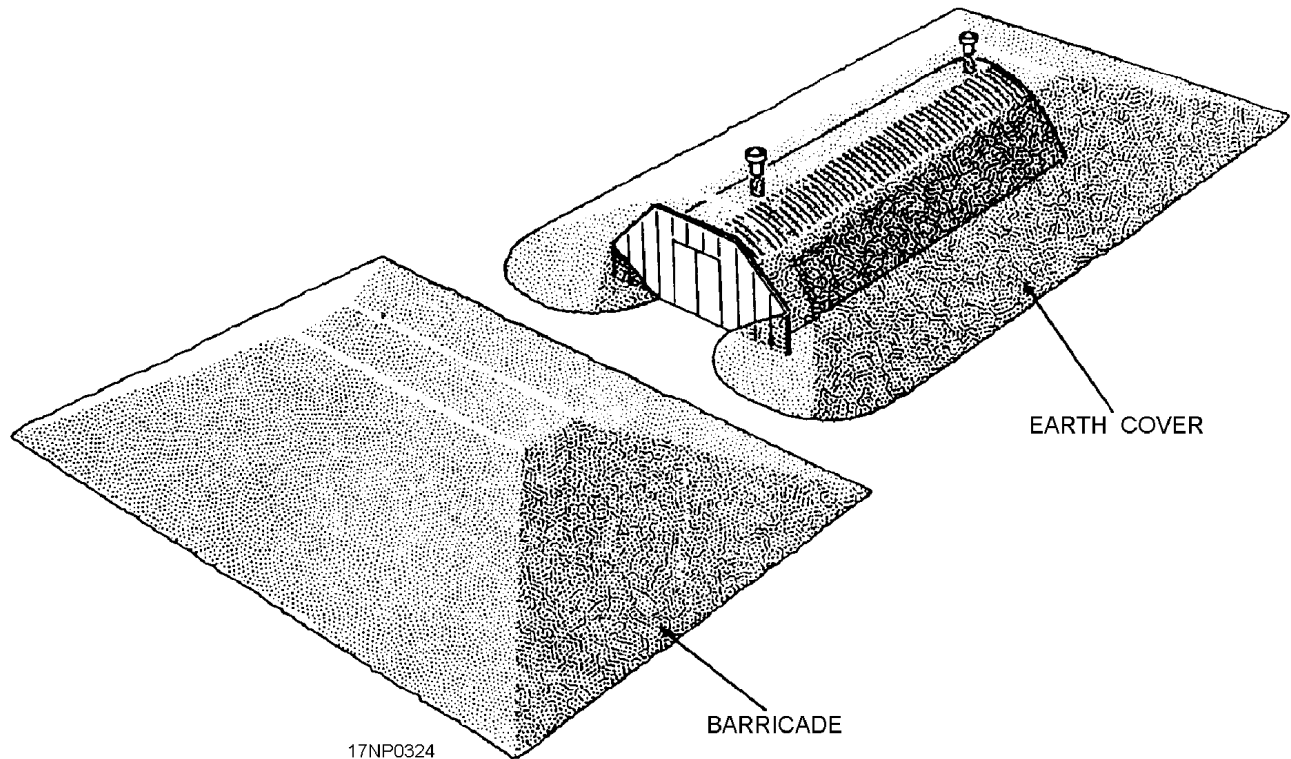

Figure 12-2.—Typical advanced base magazine.
**PREFABRICATED MAGAZINES.**—Advanced base magazines (fig. 12-2) are prefabricated, earth-covered, arch-type structures that are used to provide weatherproof storage for ammunition of all types.